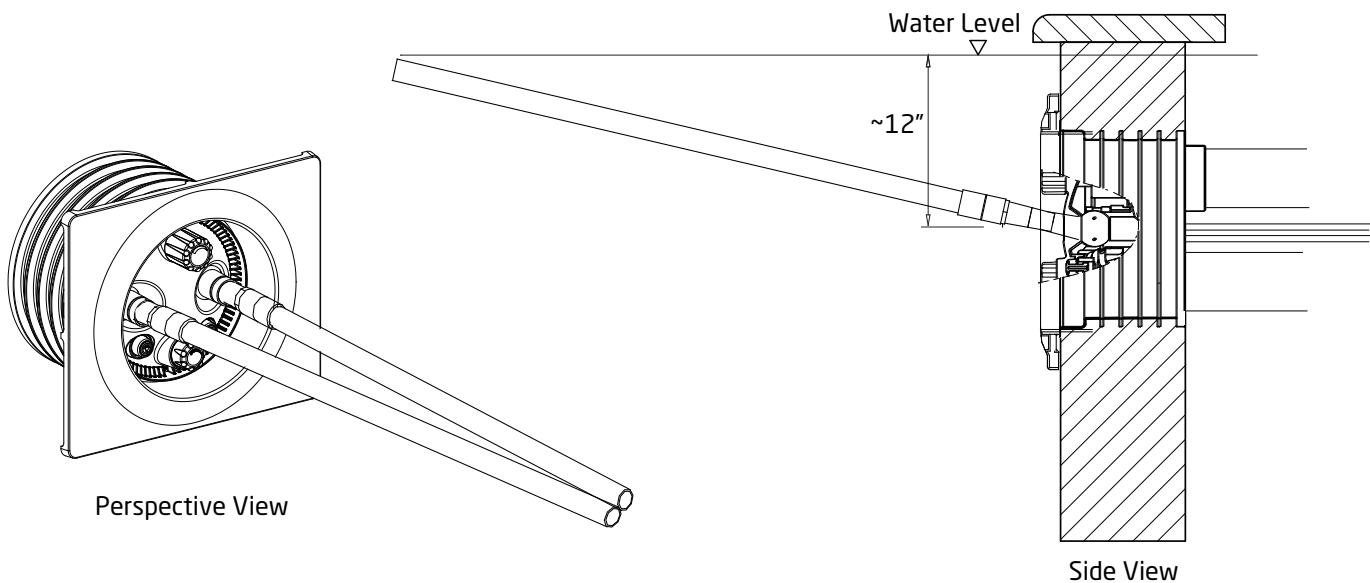

Figure 19
3. Once that is complete, bring the blue nozzle tool up to where the end of the nozzle tool breaks the surface of the water. Then bring the two nozzles tools together to meet. (See Figure 19)